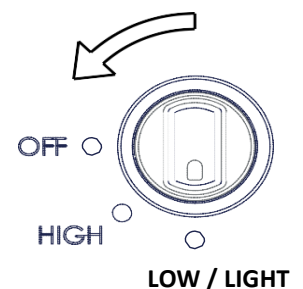

Figure 1
- Push gas control in and turn it fully anti-clockwise to "low/light" position (*Refer to Figure 1*).
When work is completed, switch fryer off (*See Figure 1*).